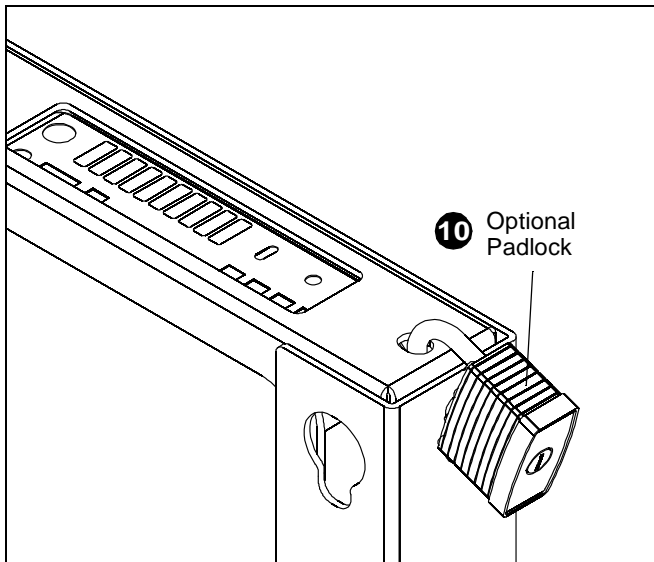

Figure 5
10. Install optional padlock, if desired. (See Figure 5)